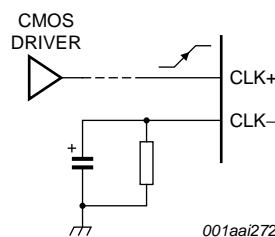

Fig 4. CMOS clock input
- 1.8 V CMOS mode: CLK+ input is at 1.8 V CMOS level and sampling is done on the rising edge of the clock input signal. In this case pin CLK– must be grounded; see Figure 4.